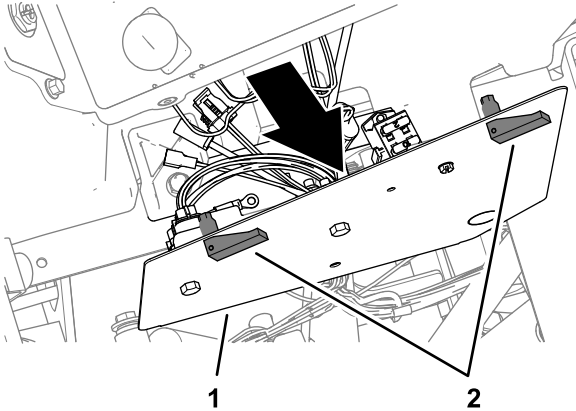

Figure 12
1. Unlatch the control panel cover (Figure 12).
2. Carefully move the panel inboard enough to provide access to the machine wire harness (Figure 12).